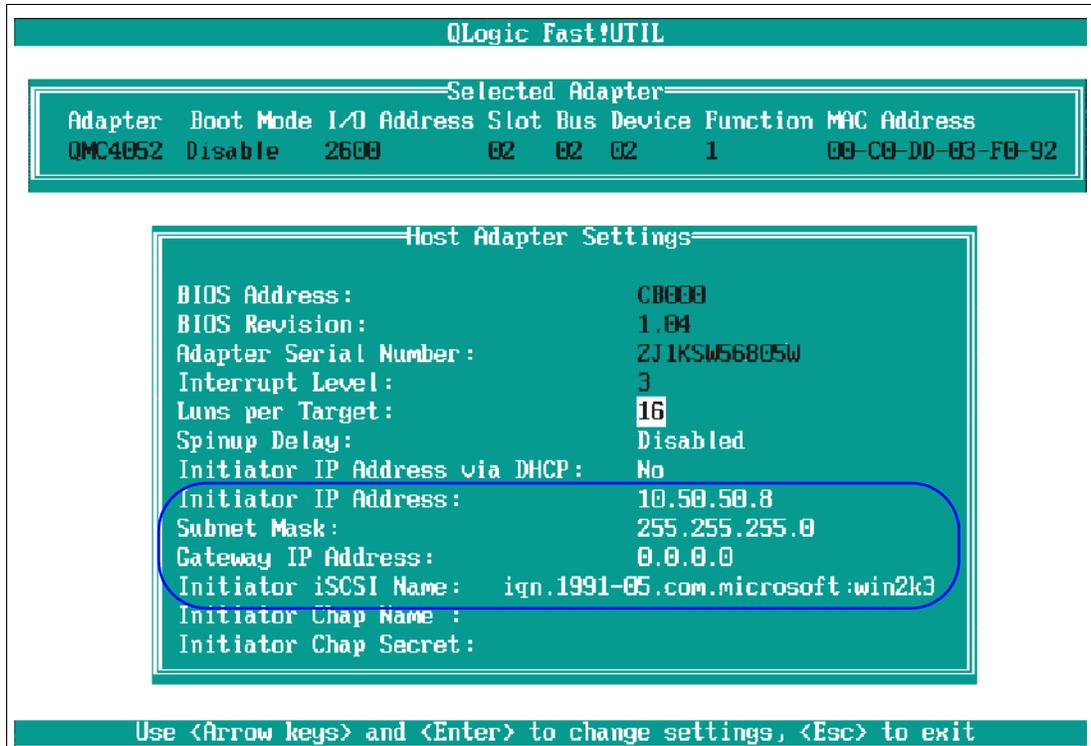

Figure 2-12 Host Adapter Settings window
- From the Fast!UTIL Options window, select **Configuration Settings** and press Enter. Next select **Host Adapter Settings** and press Enter to input the HBA configuration parameters, which must be specified before any targets can be configured. You will see a window similar to Figure 2-12.
Notice the format of the iSCSI name of the initiator (Figure 2-12 on page 20).